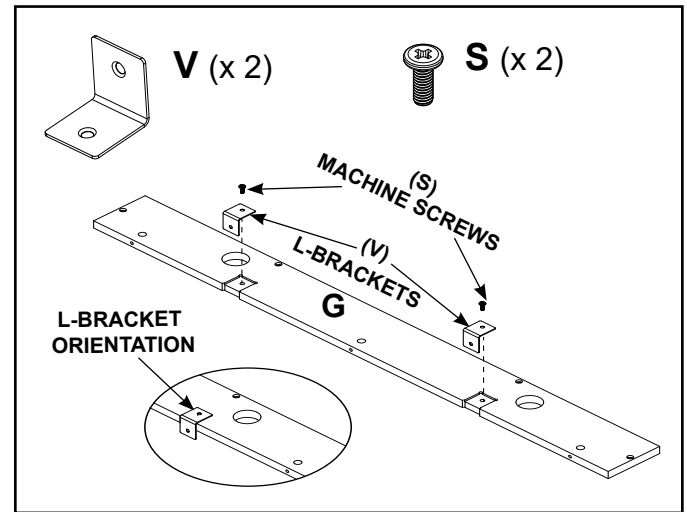

Figure 13
- Install two (2) L-Brackets (V) using two (2) M6 X 10 screws (S) on part "G". See Figure 13.